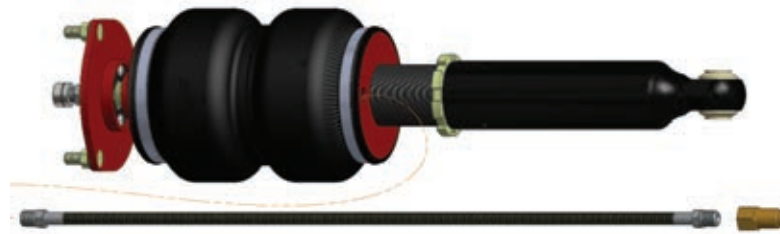

fig. 10
1. Begin by installing the leader line into the air spring (fig. 10). Wrap the threads of the leader hose with Teflon tape or thread sealant. Tighten the appropriate fitting to the air line 1 ¼ turns beyond hand tight. Tighten the leader line into the air spring 1 ¾ turns beyond hand tight.